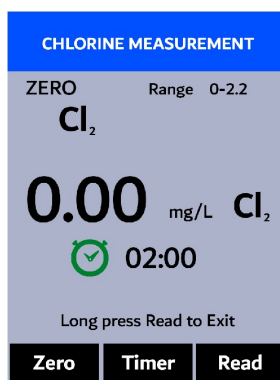

Figure 39.
5. Press **Zero** (**<**). **ZERO** will appear on the top-left corner of the display (Figure 39).